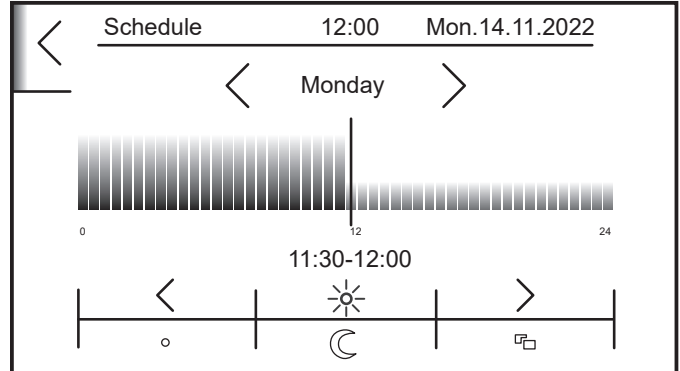

Figure 7-6: Heating time schedule interface
- 3. Modify the day if different to current by tapping navigation arrow. Refer to Figure 7-6.